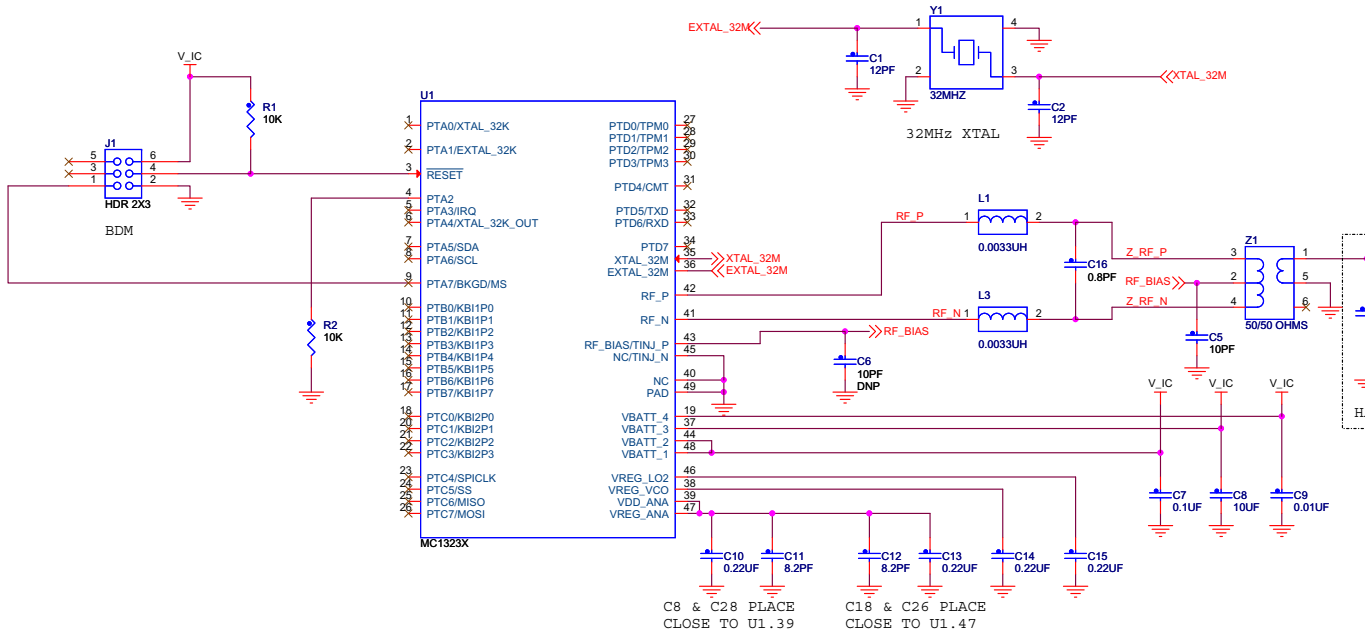

Figure 11. MC13234 Basic Applications Circuit (Note: Refer to the reference manual for the latest MF)
Figure 11 and Figure 12 illustrate a basic applications circuit based on the MC13234 and MC13237 MRB development boards. Features of the circuit include:
- RF circuitry at 2.4 GHz is very dependent on board layout and component usage. Figure 11 shows a typical RF configuration, however component value and use can vary based on customer application.